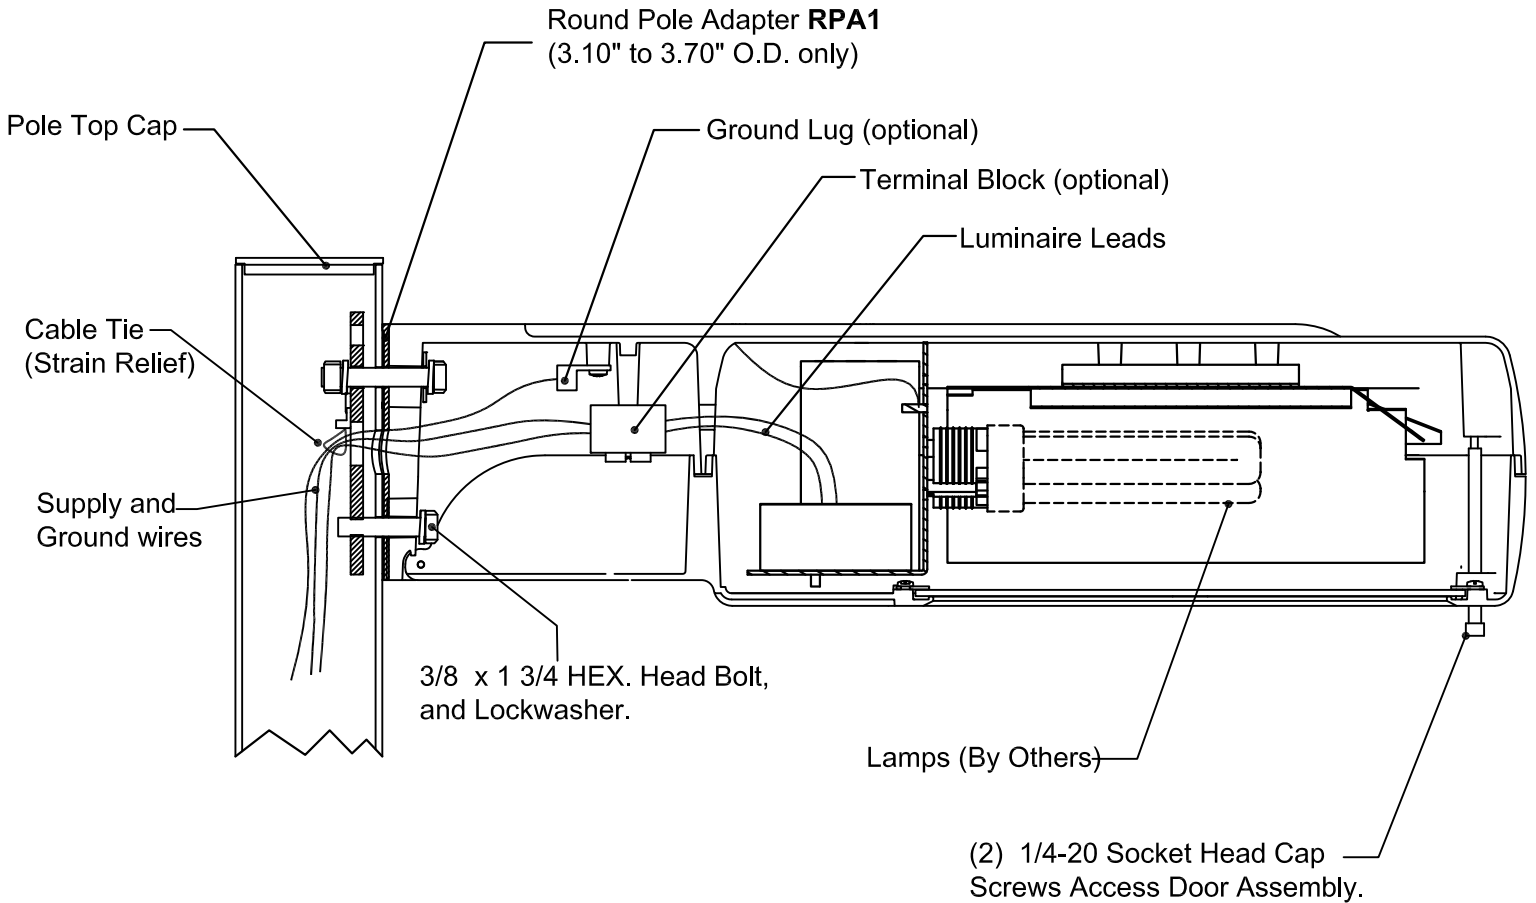

Fig. 4
3. Loosen (2) # 1/4-20 socket head cap screws using 3/16 allen wrench and open door assembly. **See Fig. 4.**